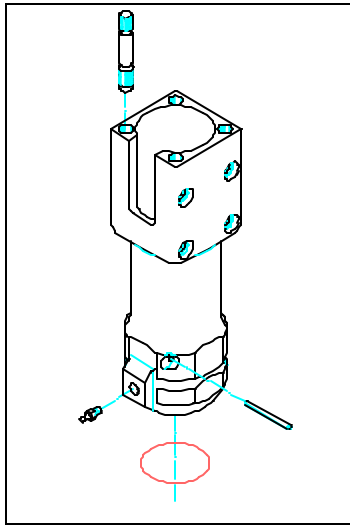

Figure 07-10: Chuck Housing
1. Slide out the Insert Chuck Housing (Position 105) from the chuck housing (pos. 307) by hand. (Figure 07-10) If resistant, gently tap with a small hammer.